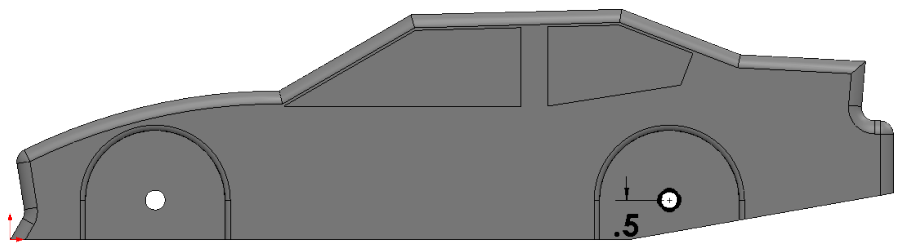

Fig. 84
Step 9. Add **.5** dimension, **Fig. 84**.